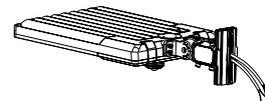

Figure 8
Step 2: Install the bracket on the fixture, tighten it. (Figure 8)